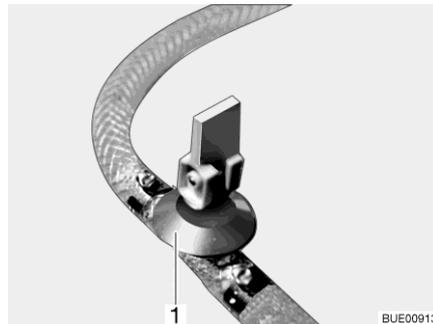
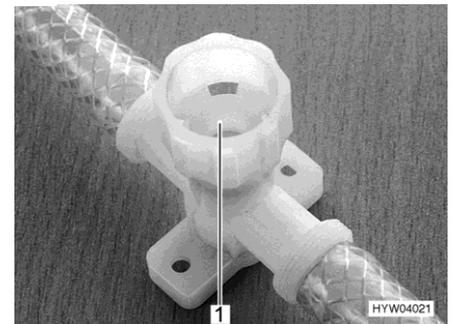

Fig. 273 Drain cock (with rocking lever)
Fig. 274 Drain cock (with twist cap)
- Close all drain cocks. To do this, position the drain cock's rocking lever (Fig. 273,1) horizontally or turn the drain cock's cap (Fig. 274,1) in a clockwise direction.